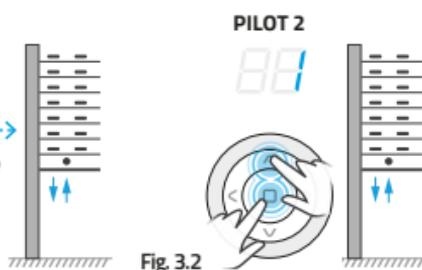

Fig. 3.2
2. On the second remote control, you want to program, press the (in the case of the multi-channel remote control) **STOP** and **UP**, Hold the buttons until the motor driver will perform two micro-movements - Fig. 3.2.